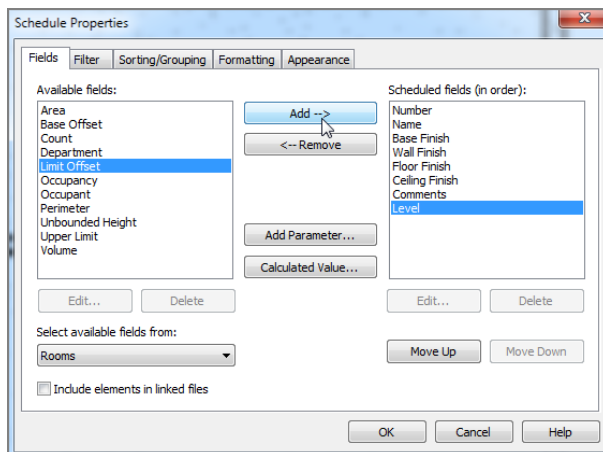

FIGURE 15.13: Adding fields to the schedule
4. On the Fields tab of the Schedule Properties dialog box that opens, add the following fields in the specified order (see Figure 15.13):